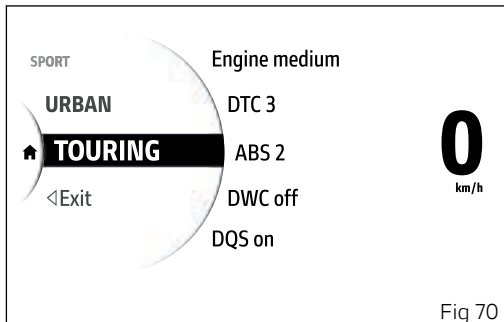

Fig 70
- Press and hold the MODE/ENTER button (3) for a long time.
- The dedicated screen is displayed (Fig 70) where, using buttons (1) and (2), it is possible to scroll through the available Riding Modes and display the parameters with the relevant set values.
- Press the MODE/ENTER button (3) to confirm.